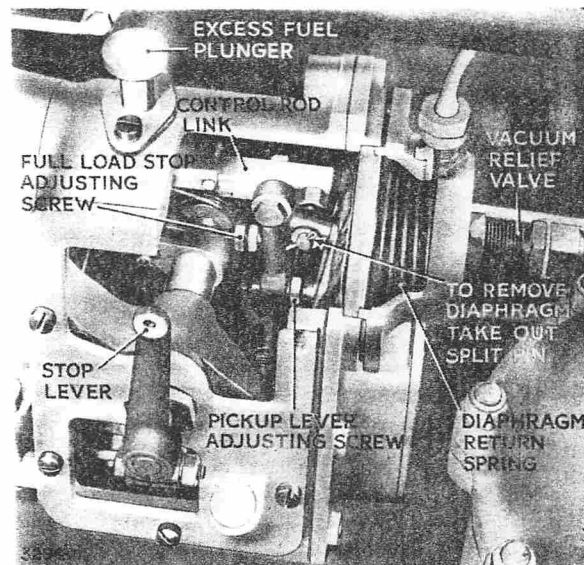

FIG. 46. GOVERNOR MECHANISM
The cable control is connected to the stop lever (Fig. 46) and when operated returns the control rod back to the stop position.
Excess fuel for starting is provided for by a device shown in Fig. 46. Depressing the knob enables the full load adjusting screw carried on the operating lever to engage in the slot cut in the control rod stop, thus permitting
3. Remove the split pin (Fig. 46), securing the diaphragm to the control rod pin. Draw the rod to the full-off position and unhook the diaphragm.